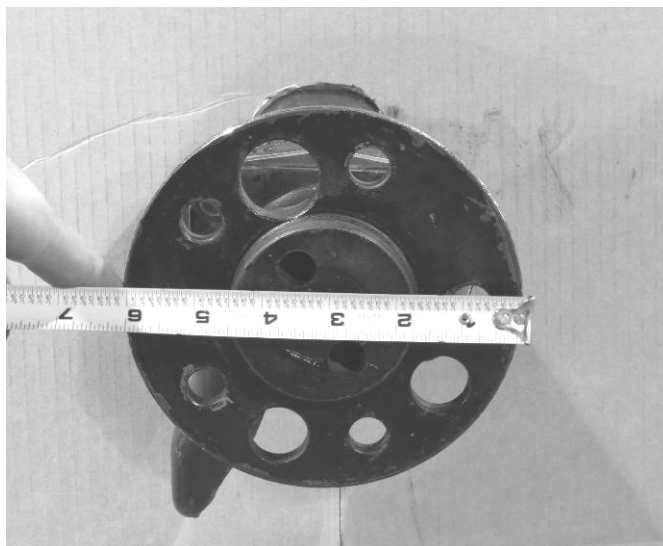

Figure 1 – Measuring the Axle Flange
4. The outer diameter of the axle flange can be no larger than 6-1/8" in outside diameter. This is critical for proper fitment of the rotor over the axle flange. For axle with a flange larger than 6-1/8", using a lathe, machine the outer flange down to no larger than 6-1/8". See Figure 1 below for measuring reference.